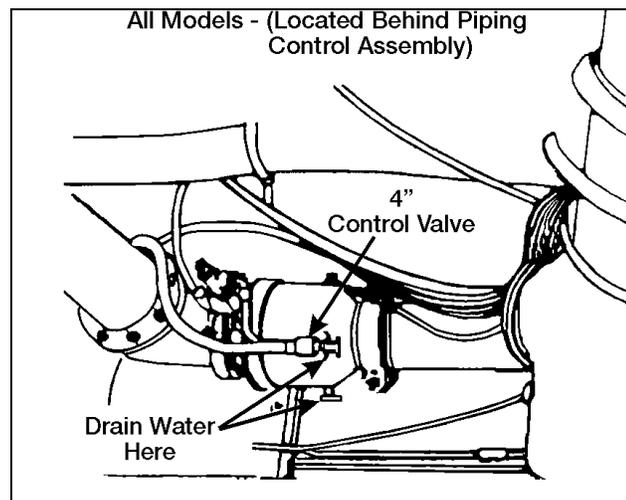

Figure 3-69a. Pilot Line Water Drains-1
- (1) Ensure all valves are closed.
- (2) Ground and bond the semitrailer before opening the fill cover.
- (3) Place fire extinguishers at point of operation.
- (4) Slowly open fill cover. Insert hose far enough to keep the end of the hose in contact with the bottom of the tank.
- (5) Slowly begin the flow and fill the tank no further than to the bottom of the capacity indicator (one person at storage tank valve or other fuel source, and other holding fill tube into semitrailer).
- (6) Remove fill hose. Close and secure the manhole cover.
- (7) Drain accumulated water. Close all valves. Put the container under the manifold drain in the piping control cabinet. Open the emergency operator valve. Slowly open the system drain valves (see Figures 3-69a and 3-69b).
- (8) Remove the grounding wires and store fire extinguishers.